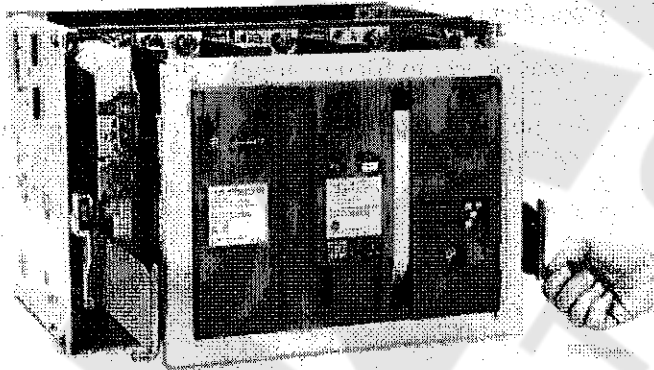

Figure 9. Withdrawing the substructure rails.
2. Pull the substructure rails out as far as possible until they drop into the horizontal locked position, as illustrated in Figure 9.